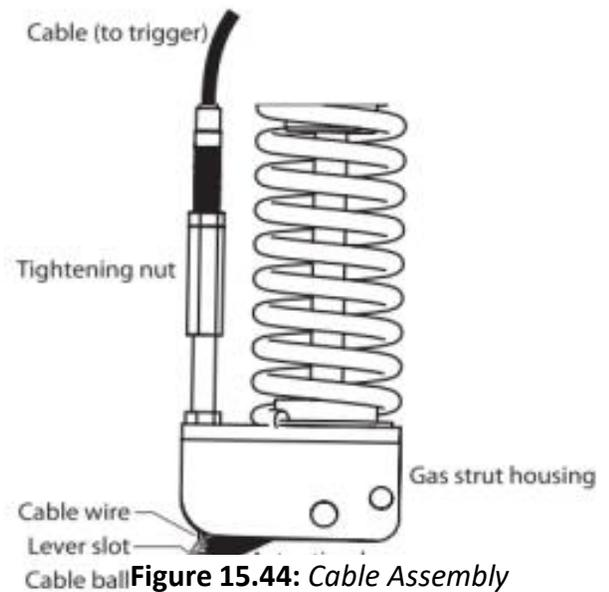

Figure 15.44: Cable Assembly
1. If the chair does not tilt when trigger is pulled – the cable wire is too loose and needs to be tightened. To do so, remove the rubber sleeve above the gas strut housing that covers the adjustment nuts. Loosen the locknut first and turn the ‘tightening nut’ (shown in **Figure 15.44**) so that more thread is showing above the nut. Check tilt function and if acceptable tighten locknut and refit rubber sleeve.